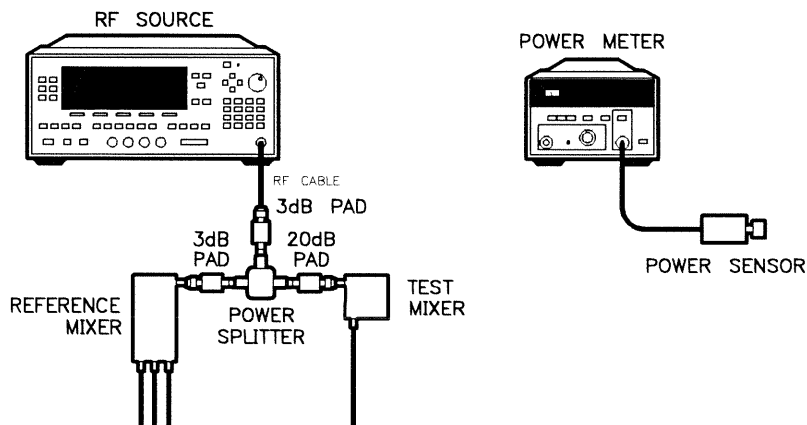

Figure 4-4. RF Test Signal Diagram
3. Connect system components as shown in Figure 4-3, Configuration Diagram, and Figure 4-4, Splitter/Cables Diagram. The mixers must be placed near the verification system during the performance verification. If the RF SOURCE to SPLITTER cable is different than the recommended cable, then it must be as short as possible with very low RF loss.